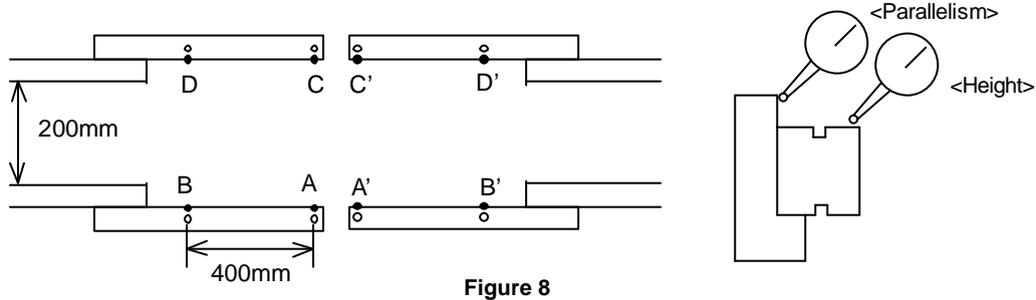

Figure 8
1. Set a dial indicator on the XY Table. Check the parallelism and height of the reference and adjustable side LM guides at the positions indicated in Fig. 8.